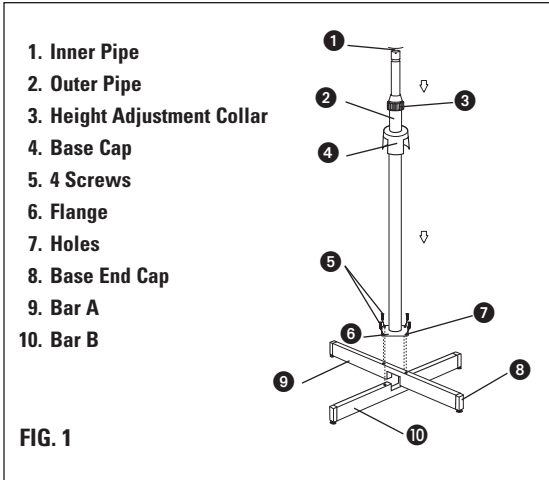

FIG. 1
2. Loosen and remove the four screws from bar A and bar B. Cross the 2 bars as shown in Fig. 1 and align the four holes with those on the flange. Secure the flange to the bars with the four screws. Slide the base cap down over the assembly.